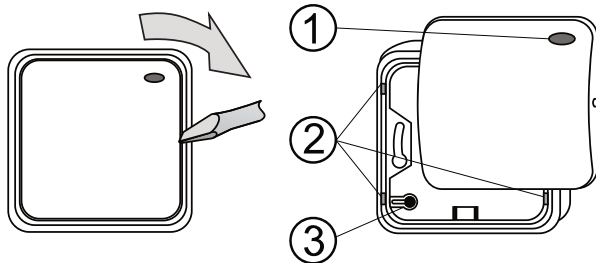

Figure 1 – 1 – LED indicator visor, 2 – Base plastic tabs, 3 – Permanent magnet
1. Open the movable cover (by a screwdriver from the side, see figure 1).
2. Release the bottom plastic base by pressing the 4 tabs in the corners (2).
4. Assemble the PCB part into its plastic frame. If the plastic base is used then it is necessary to move the permanent magnet (3) of the tamper contact from the plastic frame which holds the PCB to the receptacle on the plastic base.
5. Connect the BUS cable to the BUS terminals (7).
- a. When the button is switched on, the yellow LED (5) flashes and indicates that the button has not been enrolled into the system.